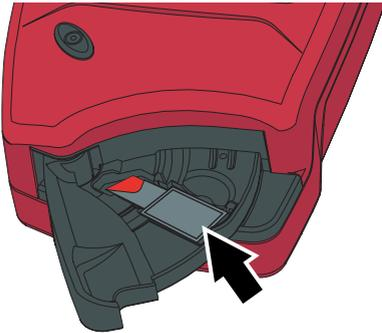
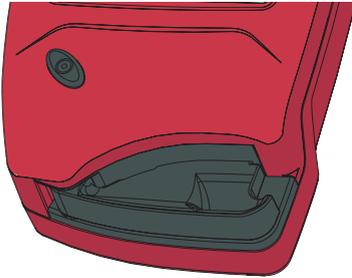
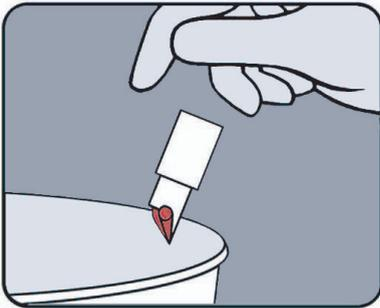

FIGURE 5-11
FIGURE 5-12
FIGURE 5-13
k) Place the filled Cuvette in the Cuvette holder, see *FIGURE 5-11*.
e) Perform the measurement as described in *FIGURE 5-11*, *FIGURE 5-12* and *FIGURE 5-13* in section 5.1 *Capillary blood*.